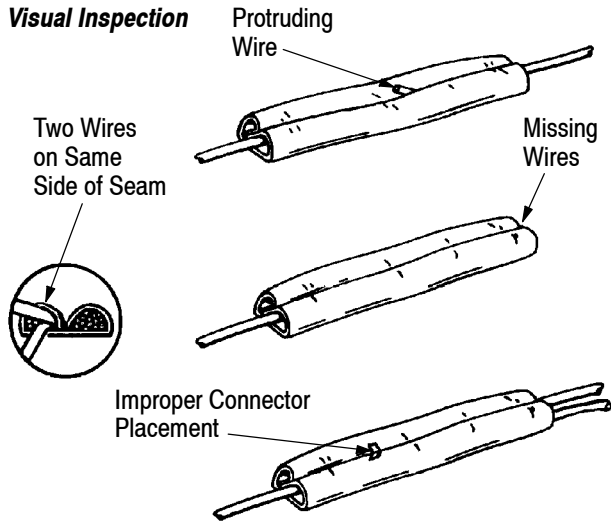

Figure 8
**8.2. Visual Inspection (Figure 8)**